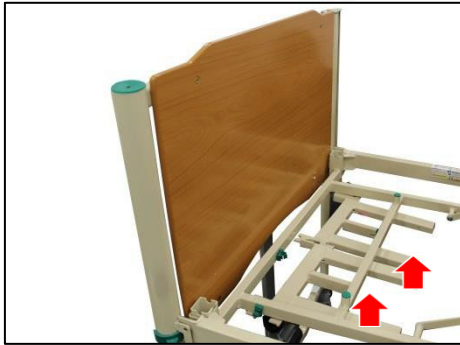

Figure 10: Storing transport brackets
12. The transport brackets can be safely stored under the bed frame to prevent loss of the brackets. This can either be done whilst the bed is on its side or by raising the bed to its full height and attaching them underneath. The transport brackets can then be attached to the fixing points onto the underside of the bed as indicated (figure 10). Ensure each bracket is locked in place by securing with a turn screw.